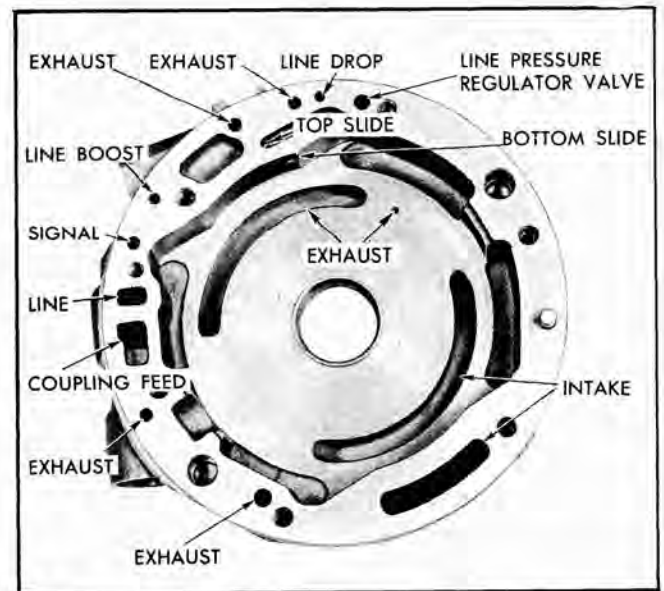
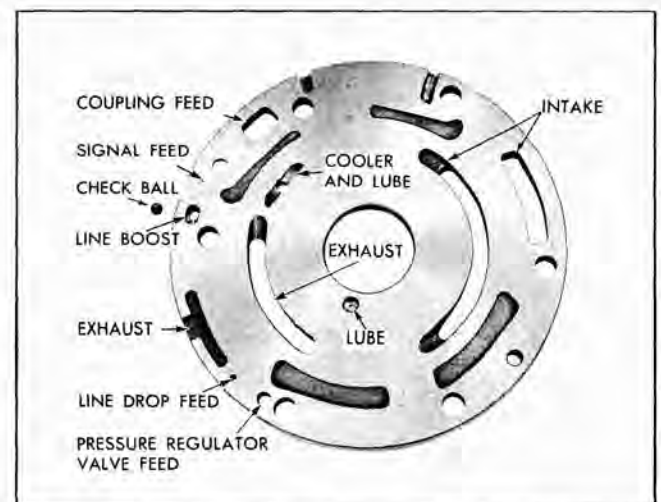

Fig. 73 Pump Body Oil Passages
Fig. 74 Pump Cover Oil Passages
1. Inspect all oil passages in the pump body (Fig. 73) and cover (Fig. 74) for dirt or restrictions, using tag wire and compressed air.
3. Inspect (11) pump vanes for excessive wear at
16. Retain the line boost check ball in its hole with petrolatum (Fig. 74).